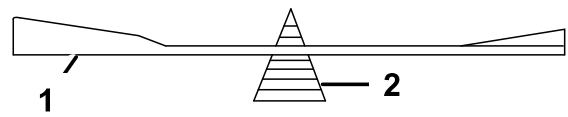

Figure 49
2. Check the balance of the blade by putting it on a blade balancer (Figure 49).